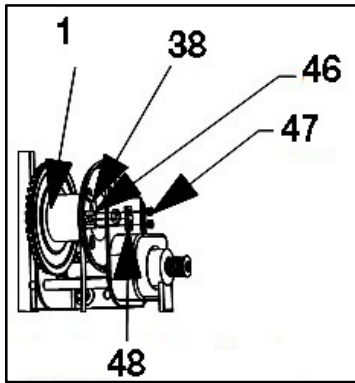

Fig. 13: Install winch cable assembly
16. Attach the open end of the Winch Cable Assembly [item #38] to the Winch [item #1] by following the instructions provided with the winch. (Note that the hardware used for this step may not exactly match what is shown in **Error! Reference source not found.**Fig. 13.)